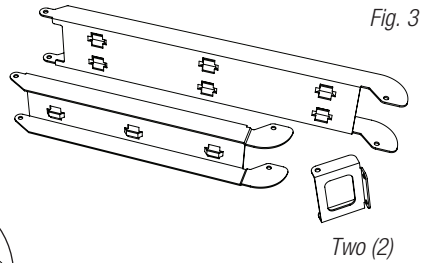

Fig. 3
1. Carefully unpack Z Bracket. Do not discard hardware (included) (Fig. 3, pg. 4).